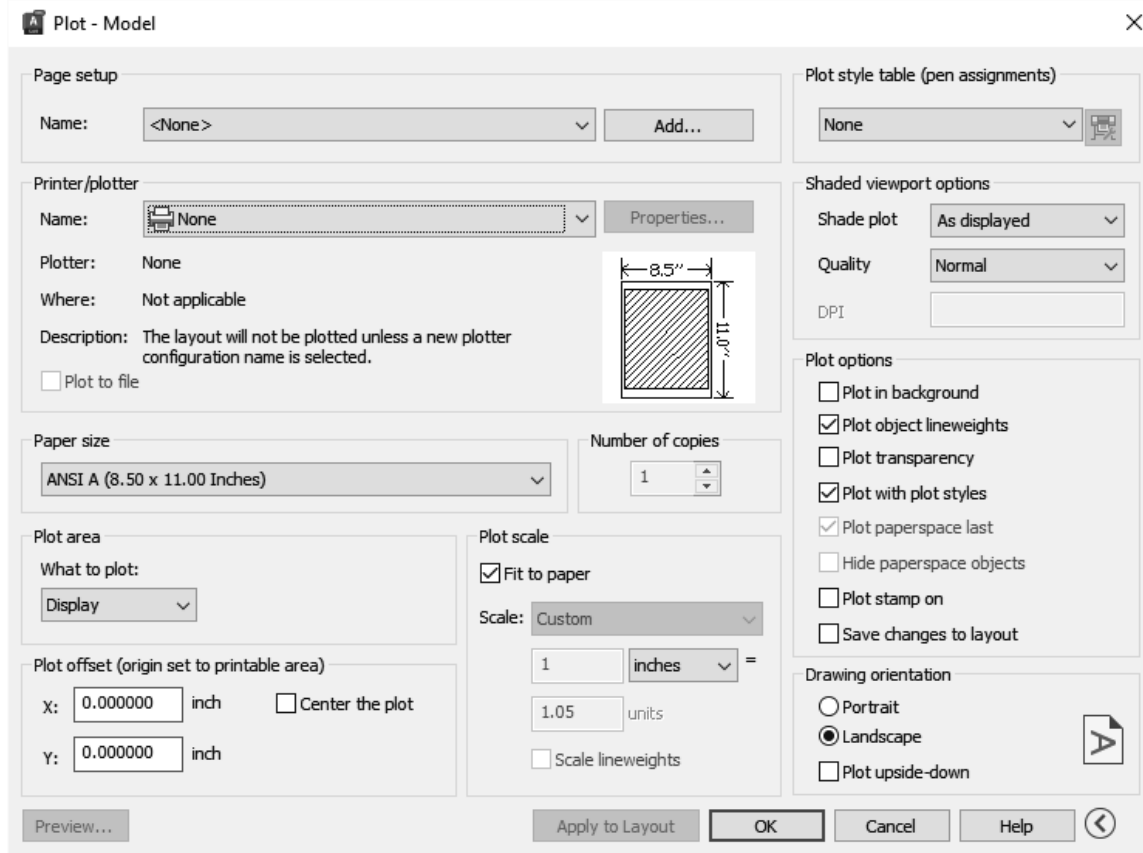

FIGURE 2-5.1 Plot Dialog Box; basic options
You are now in the *Plot* dialog box. This is where you tell AutoCAD what printer or plotter to use, what scale and what size paper, to name a few examples (Figure 2-5.1).
4. Make the following adjustments (Figure 2-5.1):
**FYI:** The *Display* option (item 4c above) will only plot what is visible on screen; that is why you need to *zoom in or out* per Step 2.
5. Click the **Less Options** arrow in the lower right corner of the *Plot* dialog box (Figure 2-5.1).